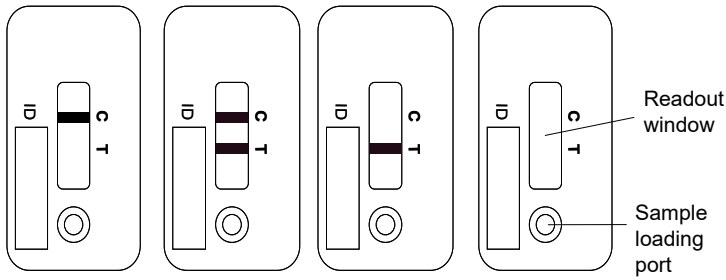

Figure 1A Figure 1B Figure 1C Figure 1D
- For a valid test result, the control line (C) must be visible in any case (see figure 1A and figure 1B). It is used as a functional test control only and cannot be used for the interpretation of the test line (T). If the test line (T) is not detectable after 15 minutes of incubation time (figure 1A), the concentration of anti-infliximab antibodies present in the serum sample is below the detection limit. If a test line (T) is detectable after 15 minutes of incubation time (figure 1B), the anti-infliximab antibody concentration present in the serum sample is calculated by the Quantum Blue® Reader.